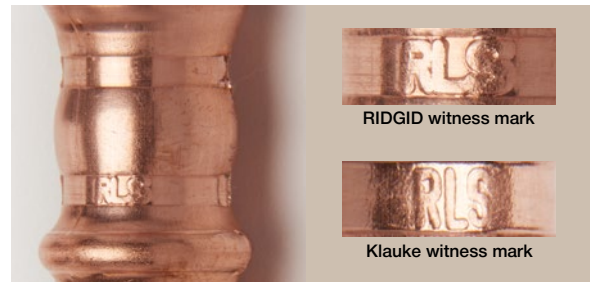

Figure 22
16. To verify the press cycle was completed properly, a witness mark (RLS) will appear within the press bands (Figure 22). The mark will be more pronounced when pressed on hard tube vs. ACR tube, but will be visible. Failure to create the witness mark either means an unauthorized jaw or the wrong sized jaw was used. If a fitting is incorrectly pressed, then it must be removed and the procedure restarted with a new fitting.